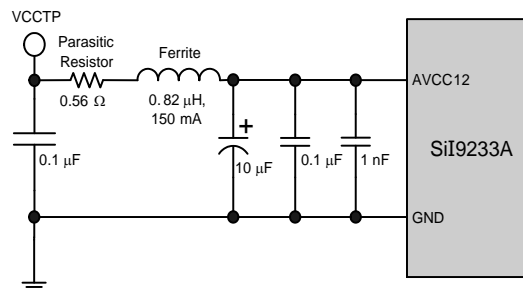

Figure 5.1. Test Point VCCTP for VCC Noise Tolerance Spec
- The supply voltage noise is measured at test point VCCTP in Figure 5.1. The ferrite bead provides filtering of power supply noise. The figure is representative and applies to other VCC pins as well.